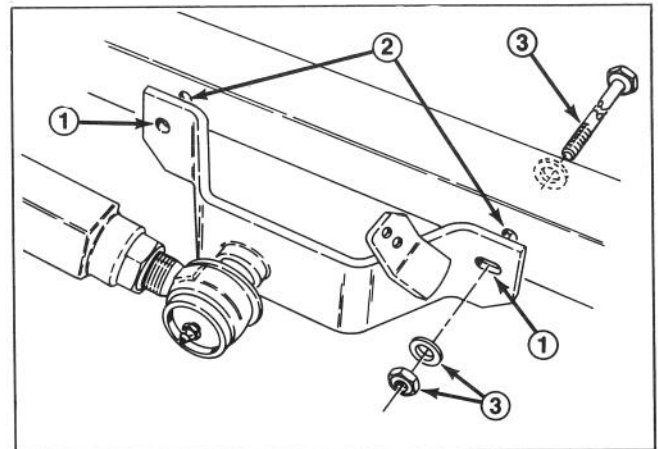

Figure 10
5. Have a helper carefully push down on the push arm until ball joint mount bracket holes line up with holes in carrier frame arm (Fig. 10). Immediately slide